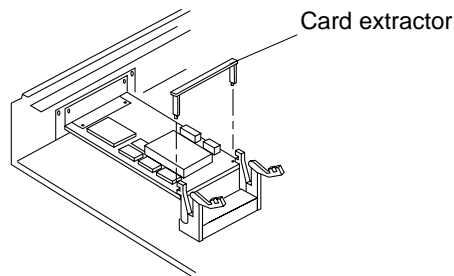

FIGURE 10-4 Installing or Removing the Card Extractor
- 9. Install the card extractor (shipped with the system) on the SBus card. Insert the legs of the extractor into the holes on either side of the connector. See FIGURE 10-4. Install two card extractors on an SBus card that occupies two slots.**